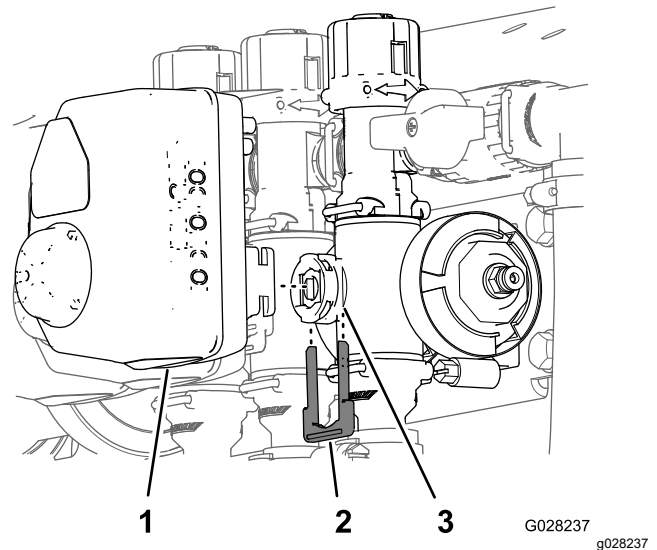

Figure 66
3. Remove the retainer that secures the actuator to the manifold valve for the rate control, agitation, master section, or section valve (Figure 66).